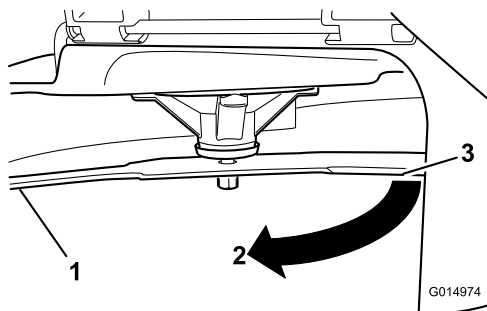

Figure 50
3. Measured distance between blade and the surface (A)
4. Rotate the same blade 180 degrees so that the opposing cutting edge is now in the same position (Figure 50).